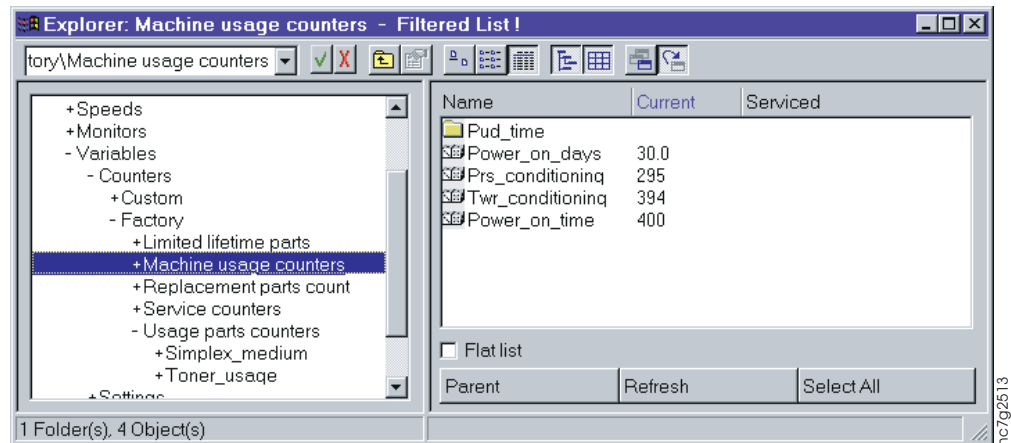

Figure 224. Machine Usage Counters Window
3. Click again on **Machine usage** counters and you will see the counters in the list view or right side of the **Machine usage counters** window, as shown in Figure 224. The counters are described in Table 76.